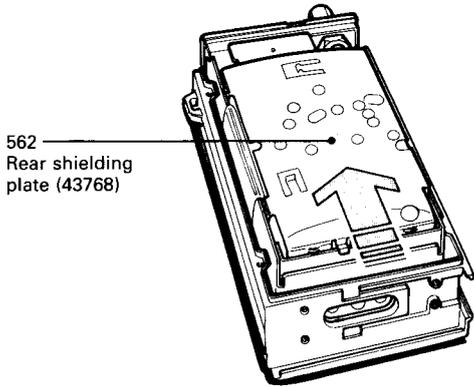

Fig. 5-1-3
- Slide the inner frame upward slightly as shown in Fig. 5-1-3, and lift the frame away from the front panel.